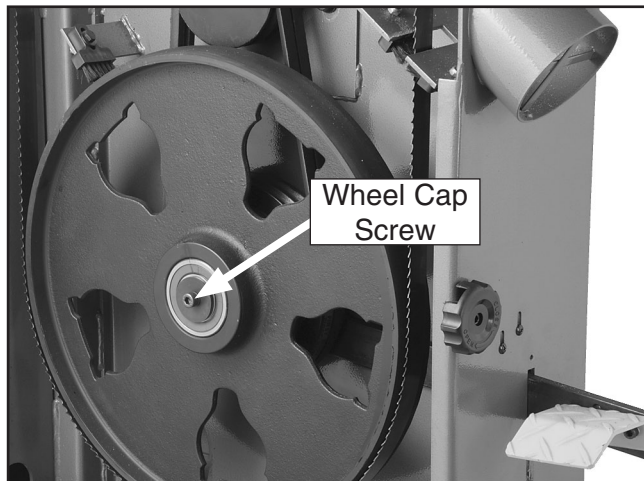

Figure 63. Wheel cap screw for removing the wheel.
4. Unthread the wheel cap screw shown in **Figure 63** and slide the lower wheel off of the bearing shaft.